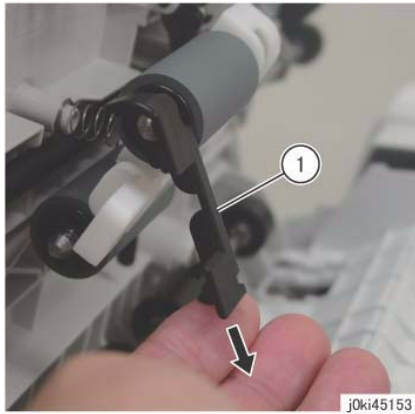

Figure 3 Remove the housing
6. Remove the housing. (Figure 3)